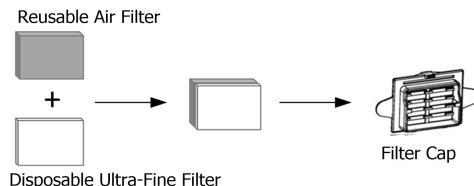

Fig. 18-5
- (2) If using the optional disposable ultra-fine filter this can be replaced by removing the filter cap and remove the disposable ultra-fine filter. To install a new disposable ultra-fine filter, place the reusable air filter into the filter cap first and then apply the disposable ultra-fine filter. The disposable ultra-fine filter will be closest to the device, as shown in Fig. 18-5.